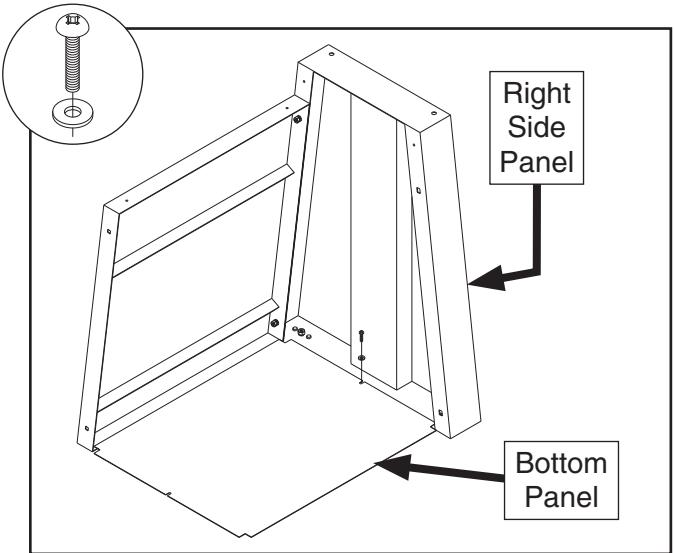

Figure 9. Bottom panel attached to right side panel.
4. Attach bottom panel to right side panel with (1) M5-.8 x 8 Phillips head screw and 5mm flat washer (see **Figure 9**).